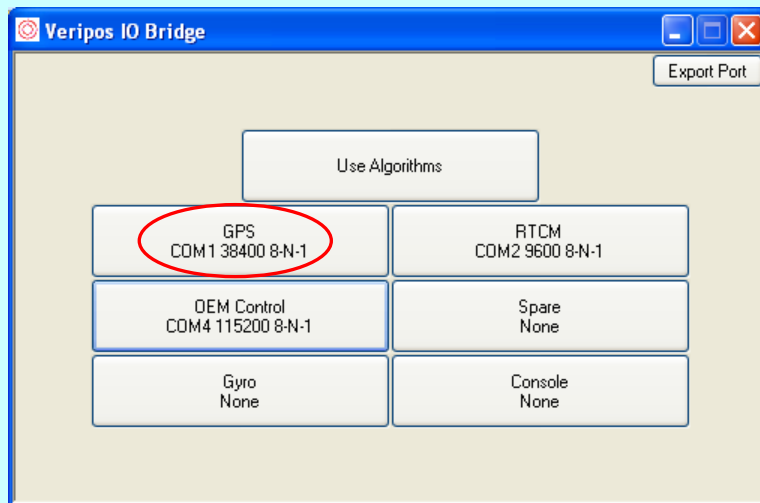

Figure 11 Bridge IO
b) Click on bridge icon at the bottom tool bar to display the IO Bridge interface (Fig 11).
c) On the Bridge IO software interface, click on GPS button (Red oval Fig.11).